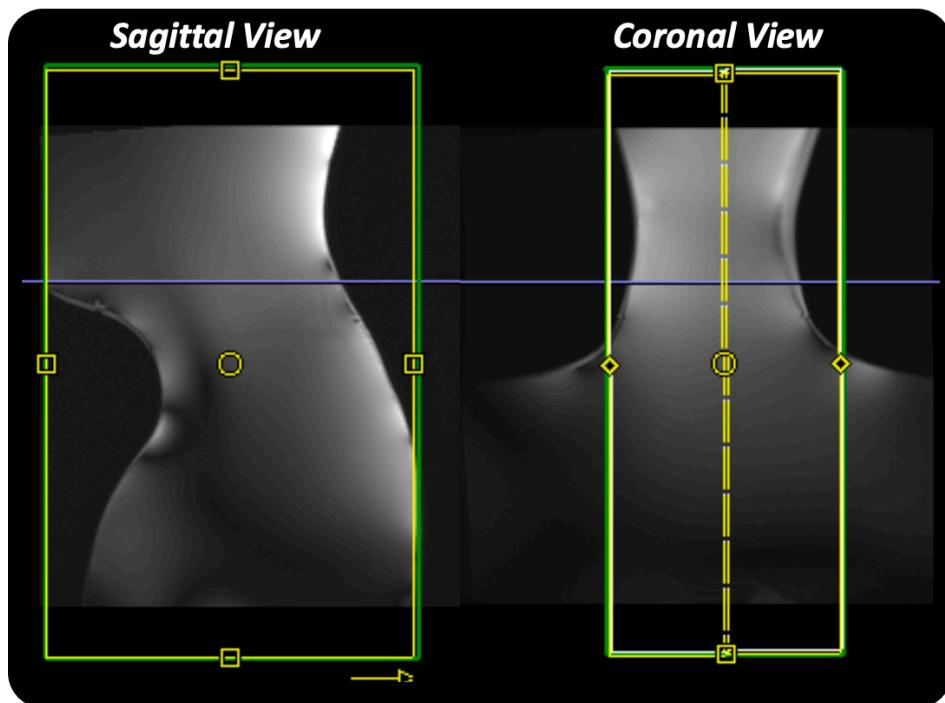

Figure 3. Positioning of FOV for turboFLASH scans.
- **Position the Field of View (FOV) according to Figure 3.** The center of the FOV should roughly **correspond to the isocentre**. If the FOV in the FH direction for the imported protocol is too large for your coil, use the largest FOV possible in the FH direction for your coil.